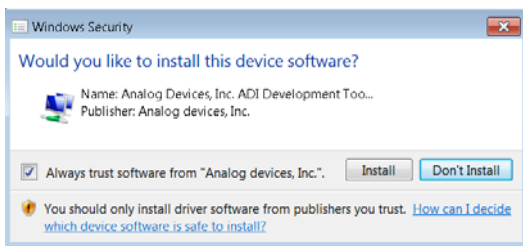
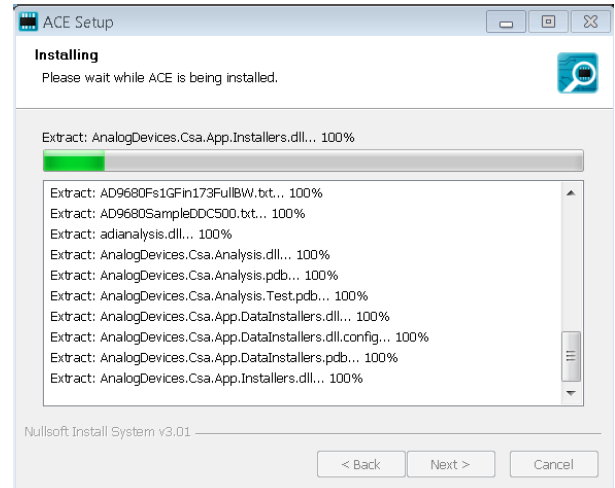

Figure 7. Windows Security Window
Figure 8. Installation in Progress
8. The **Windows Security** window appears (see Figure 7). Click **Install**. Figure 8 shows the installation in progress. No action is required.